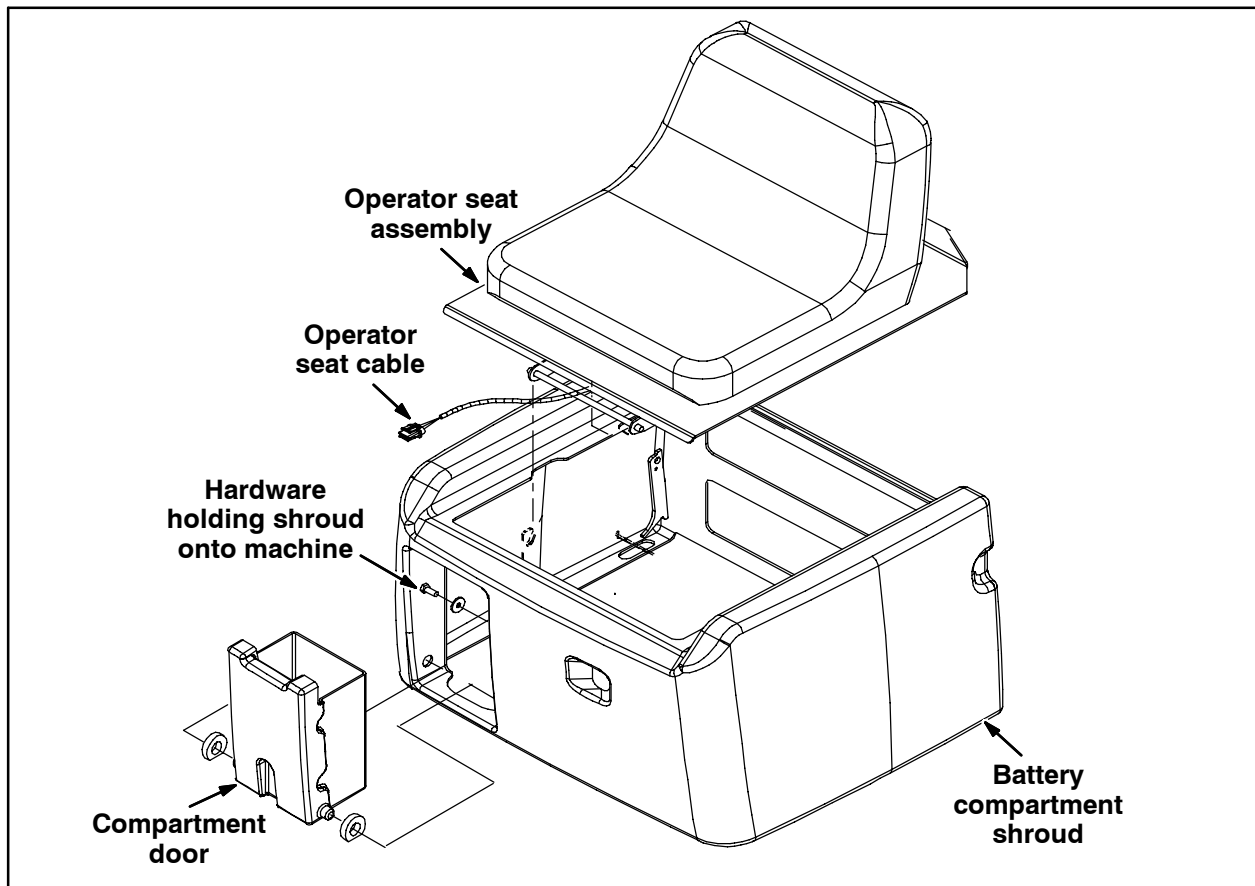
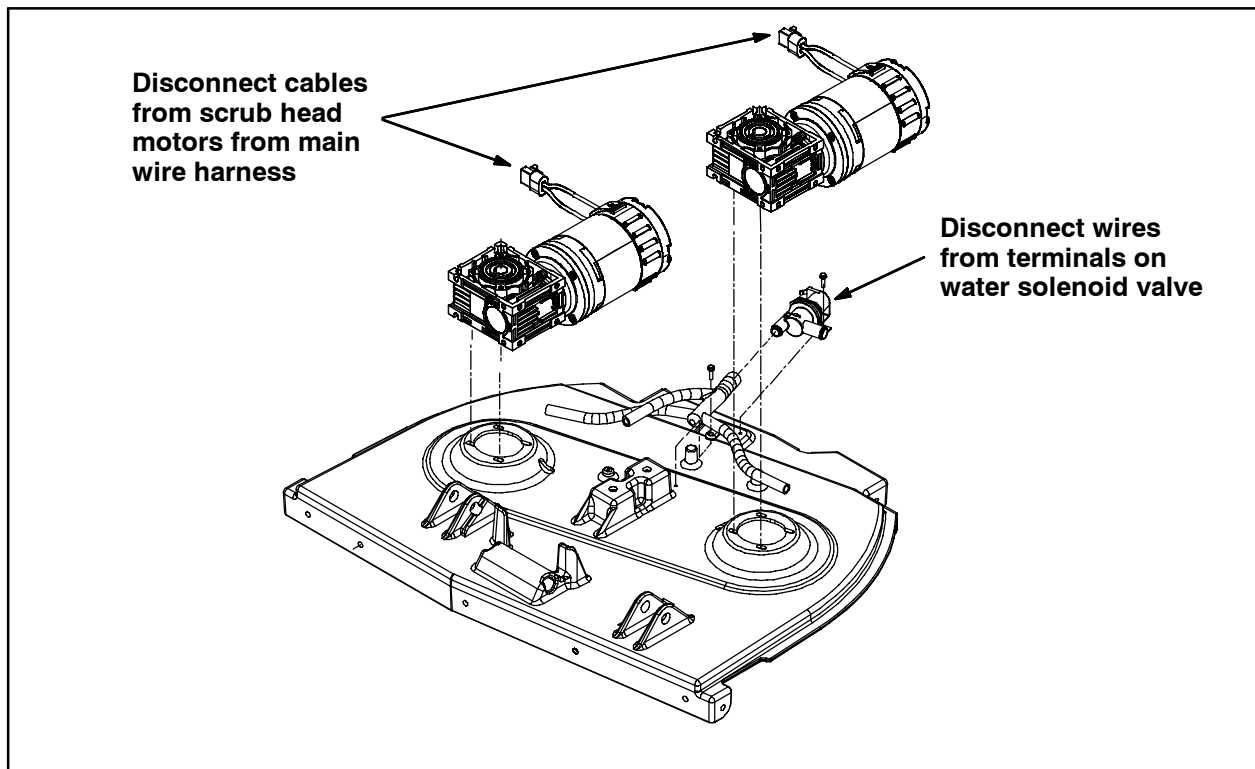
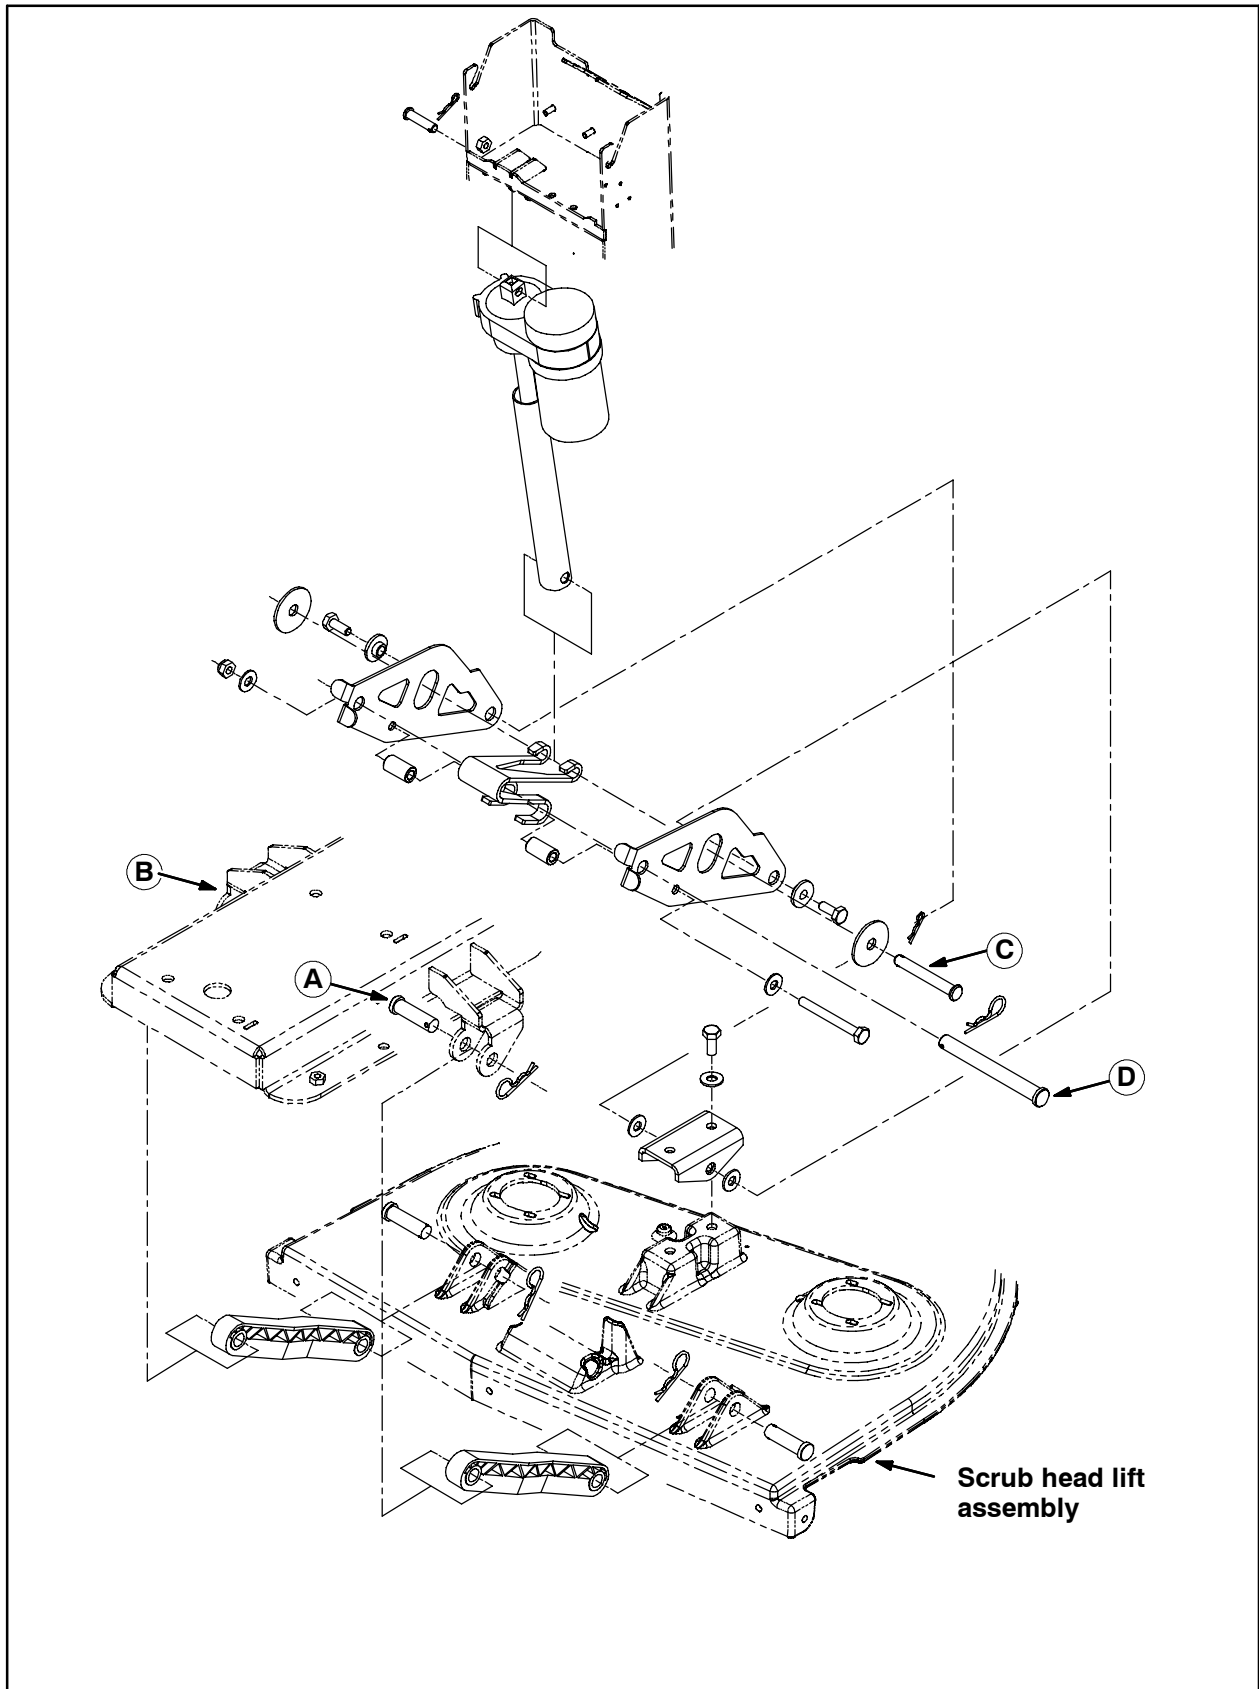

FIG. 1
FIG. 2
FIG. 3
Refer to Fig. 1, Fig. 2, and Fig. 3
6. Disconnect the operator seat cable from the main wire harness and remove the seat from the machine. Refer to Fig. 1.
7. Remove the existing compartment door from the battery compartment shroud. Remove the hardware holding the battery compartment shroud onto the machine. Remove the shroud from the machine. Refer to Fig. 1. Discard the existing compartment door.
10. Disconnect the cables from both scrub head drive motors and the water valve solenoid from the main wire harness. Refer to Fig. 2.
12. Remove the cotter pins from clevis pins (A), (B), (C), and (D) and pull the clevis pins from the scrub head lift assembly. Do not lose any hardware removed from the machine in this step since these items are needed to reinstall the scrub head lift assembly. Refer to Fig. 3.
13. Remove the scrub head lift assembly from underneath the machine. Refer to Fig. 3.
15. Use the clevis pins (A), (B), (C), and (D) to reinstall the scrub head lift assembly onto the machine. Refer to Fig. 3.
16. Reconnect the scrub head drive motor cables previously disconnected from the main wire harness and the wires previously disconnected from the water valve solenoid terminals. Refer to Fig. 2.
29. Reinstall the battery compartment shroud onto the machine. Refer to Fig. 1.
35. Reinstall the seat onto the machine and reconnect the operator seat connector to the main wire harness. Refer to Fig. 1.